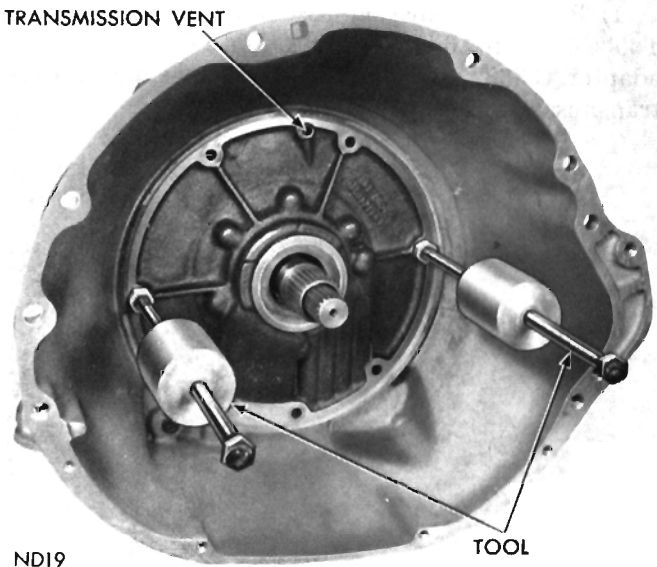

Fig. 47—Removing Pump and Reaction Shaft Support Assembly
- (1) Tighten front band adjusting screw until band is tight on front clutch retainer. This prevents clutch retainer from coming out with pump which might cause unnecessary damage to the clutches.
- (2) Remove oil pump housing retaining bolts.
- (3) Attach Tool C-3752 to pump housing flange, (Fig. 47), in threaded holes in the flange.
- (4) Bump outward evenly on the two “knocker weights” to withdraw pump and reaction shaft support assembly from the case.